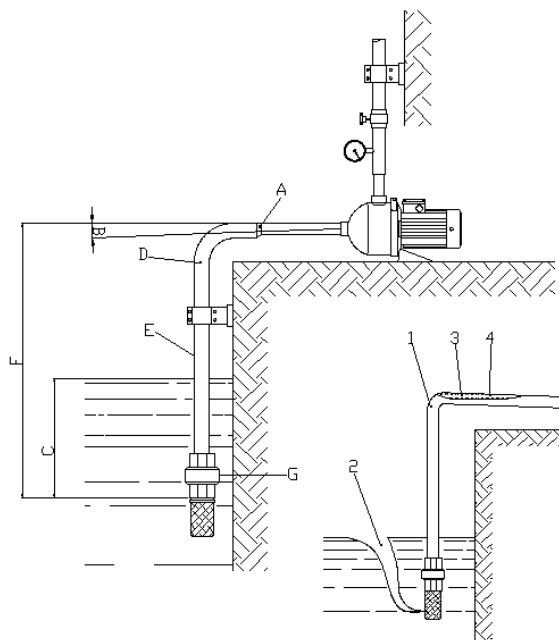

Fig. 3
2.3 Guide to Correct installation (Fig. 3)
Incorrect installation (Fig. 3)